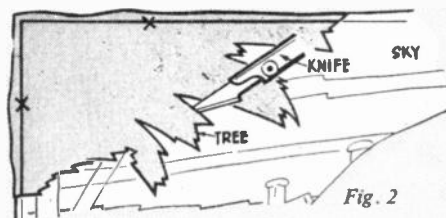

Fig. 2
Now trace the shape of the next adjoining veneer, say the tree in the top left-hand corner. Where this will join up with the first veneer the outline must be exactly to shape, but on the outer edges, again marked (X) (Fig. 2), a $\frac{1}{4}$ in. overlap will be allowed. Cut this veneer to the shape marked, place it in position on the baseboard with the trimmed edge overlapping the surplus on the first veneer placed. Holding the second veneer tightly in its correct position, cut the underneath veneer along the joining edge with a sharp knife (Fig. 2).